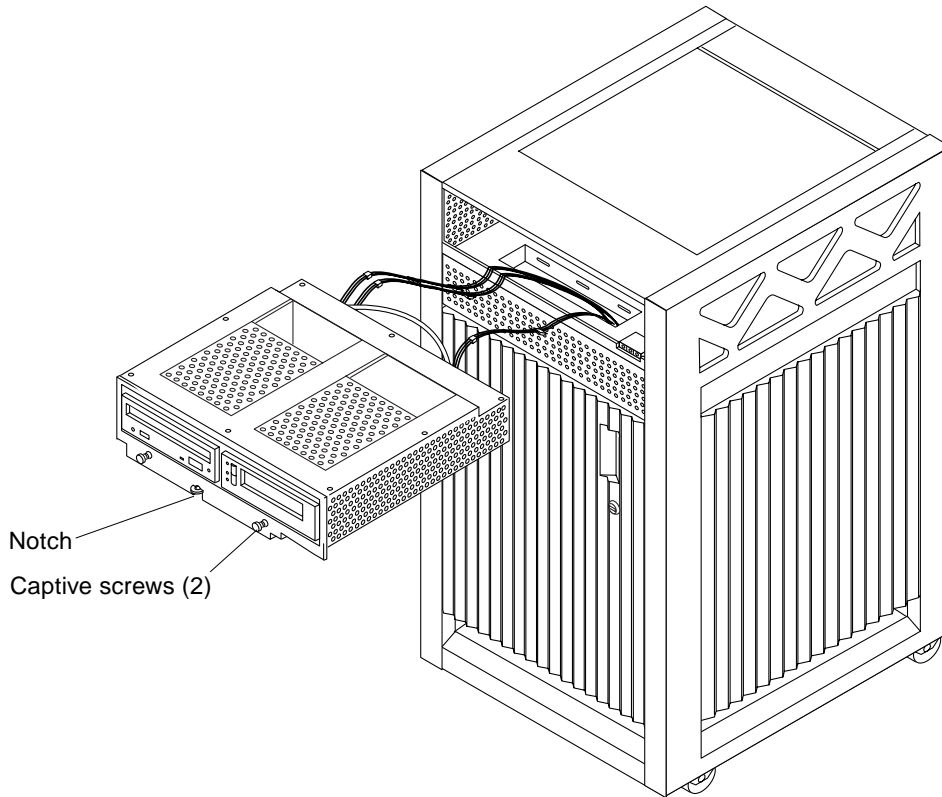

FIGURE 8-3 Media Tray Removal and Replacement
2. Loosen the bottom two captive screws that secure the media tray to the chassis tray (FIGURE 8-3).
3. Use a screwdriver in the notch at the bottom center of the tray to assist in separating the media tray from the rear slip connectors, and pull out the tray containing the devices (FIGURE 8-3).